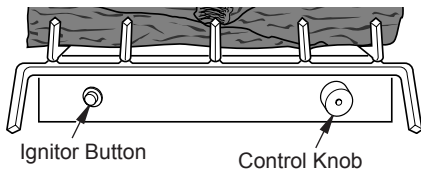

Figure 30 - Control Knob and Ignitor Button Location
5. Turn control knob counterclockwise  to the PILOT position. Press in control knob for five (5) seconds (see Figure 30).